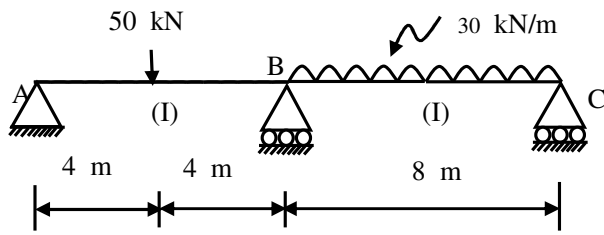

Fig.1 Q.1
Q.1 Analyse the beam shown in fig.1 using stiffness member approach and plot SF & BM diagrams. **14**